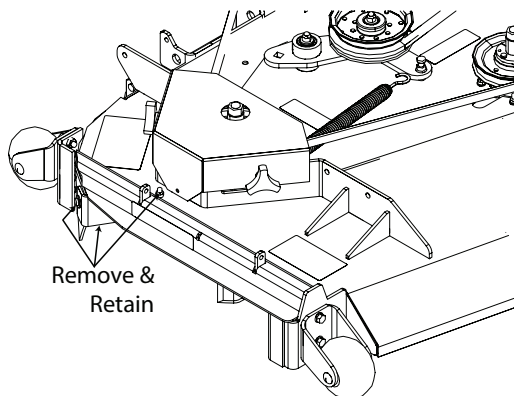

Figure 3-8. Removing the Turbo Baffle
5. Remove the turbo baffle from the cutter deck. See Figure 3-8.